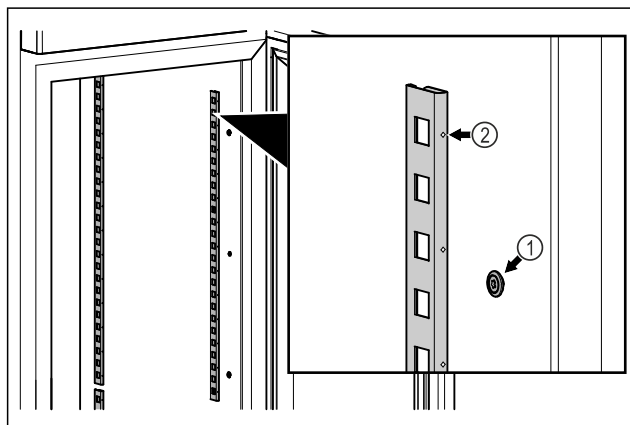

Fig. 15 Example illustration
- ▷ Hook the snap strips into the suspension Fig. 15 (1). Mark Fig. 15 (2) must point forwards.